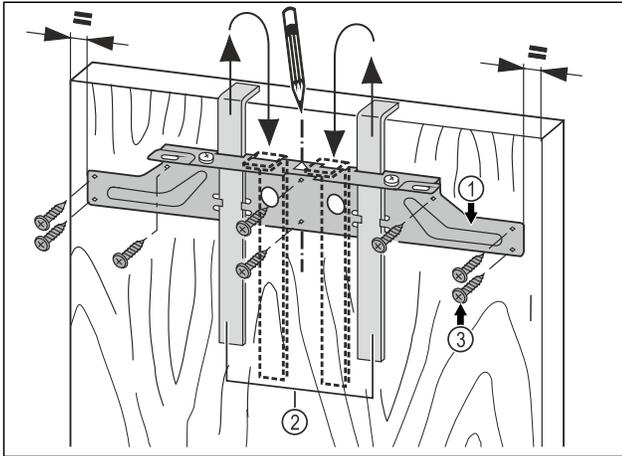

Fig. 42
- ▶ Hang the fastening crossbeam Fig. 42 (1) with the assembly aids Fig. 42 (2) on the inside of the unit door.
- ▶ Align the fastening crossbeam Fig. 42 (1) in the center of the door.
- ▶ Screw down the fastening crossbeam Fig. 42 (1) with at least 6 screws Fig. 42 (3).
- ▶ Screw down the fastening crossbeam Fig. 42 (1) to the edge with 4 screws Fig. 42 (3).
- ▶ Pull out the assembly aids Fig. 42 (2) upwards and insert them rotated into the adjacent openings.